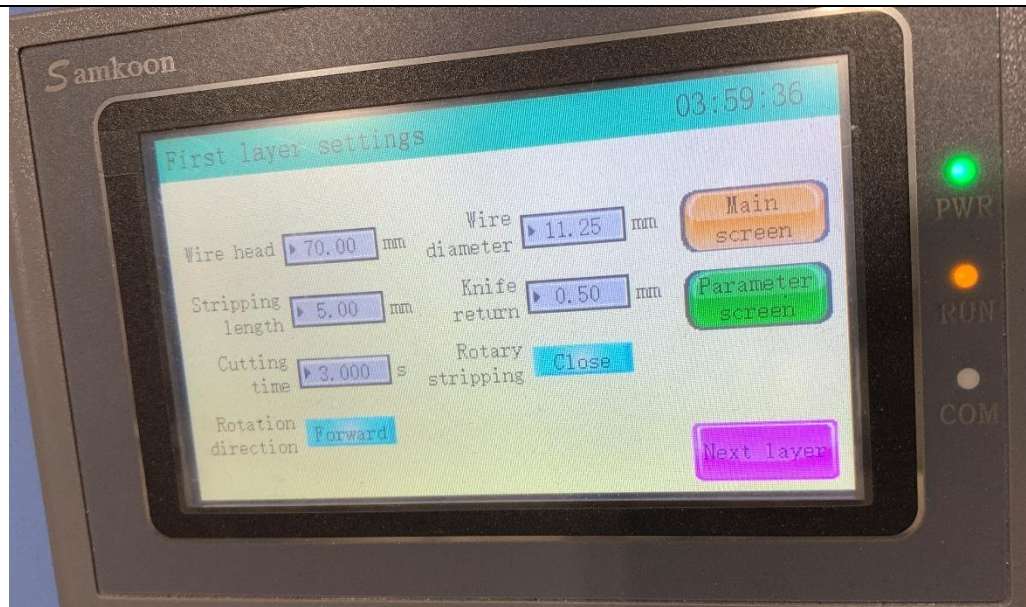

Figure 3. Cable Stripper Settings Page 1
***Note:** Numbers shown in Figure 3. are for reference only and may not reflect correct dimensions.*